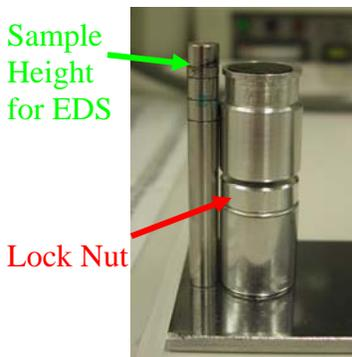

Figure 1
1. While wearing gloves, prepare the sample and place it on the sample holder. Check the **sample height** against the height gauge (Figure 1). Adjust the height by turning the screw and lock the sample with the **lock nut**.